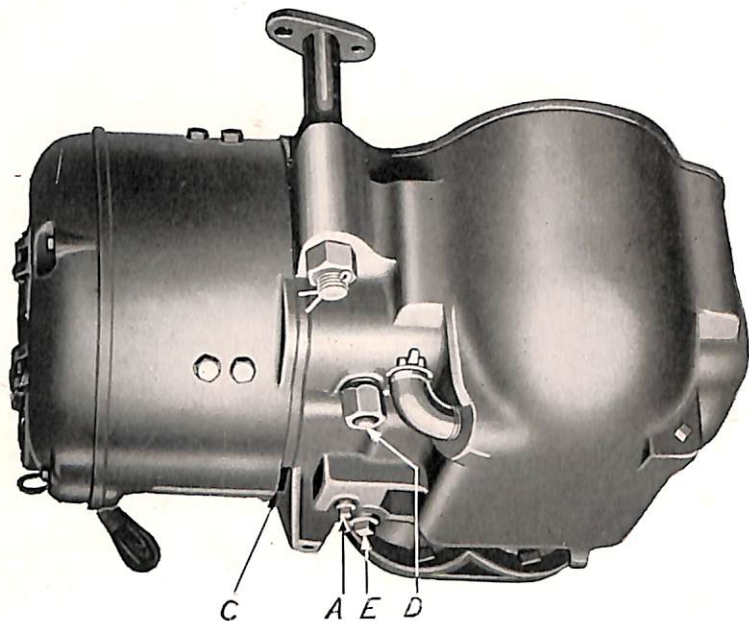
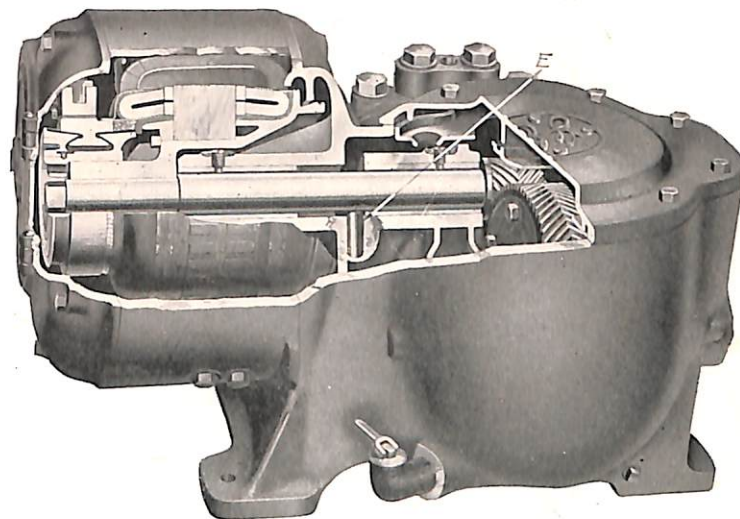
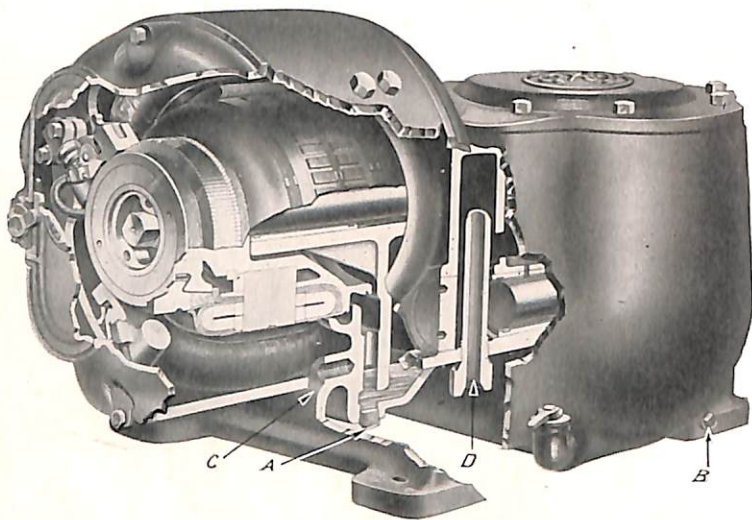

Fig. 4. Type CP-27-B Air Compressor
Fig. 7. Type CP-27 Air Compressor, Section View Showing Motor End
Fig. 10. Type CP-27-A Air Compressor Showing Vent Pipe and Oil Return to Crank Chamber
Fig. 4 shows the underside of the compressor as viewed from a pit. The oil drain "C" located at the junction of the motor frame and compressor frame does not normally discharge oil, but is provided as a safety device to permit the oil to escape in case the oil does not return properly to the crank chamber.
If oil appears on the compressor frame immediately below drain "C," the vent pipe "D" should be examined and thoroughly cleaned out if it is found in a clogged condition. A short piece of wire with its end bent at a right angle is commonly used for this purpose. In the absence of this, a long bladed screw driver or a clean stick will answer the purpose. In cleaning out the vent pipe care should be taken to draw any dirt which may have accumulated out at the bottom instead of pushing it up through the top into the crank chamber. A record should be kept of a compressor found in this condition, and if at the next regular inspection oil has reappeared on the compressor frame below drain "C," the  $\frac{1}{2}$ -in. pipe plug "A" should be removed and the oil passage between the motor and crank chamber thoroughly cleaned out. When the oil fails to return properly to the crank chamber, it will usually be found that the trouble is due to the vent pipe being clogged, and it is, therefore, recommended that an examination of this vent pipe be made a part of regular inspection regardless of whether there is an accumulation of oil on the compressor frame below drain "C" or not. The general arrangement of the oil return passage is shown in Fig. 10. Instances where this passage has become clogged with sediment are very rare.
A  $\frac{3}{4}$ -in. pipe plug "E" is located at the bottom of a settling well between the armature shaft bearings. This plug should be removed and any sediment which may have collected drawn off at regular intervals of once a year or less. The upper end of this settling well is designated as "E" in Fig. 7.
1. Place a block under the feet at the motor end of the compressor. This will cause the oil in the pocket between the armature bearings to drain back the crank chamber instead of flowing into the motor when the armature is removed. (See Fig. 7.)
13. The armature bearing linings can be removed by turning out the screw dowels (Fig. 7) and forcing the linings out with draw bolts.
the bottom of the settling well between the armature bearings (see "E," Fig. 4, the top of the settling well is designated "E" on Fig. 7); the second plug is under the passage where the oil, thrown off by the bell end of the armature, returns to the crank chamber (see "A," Fig. 4 and 10); the third is in the side of the crank chamber, near the crank shaft bearing which is farthest from the motor (see "B" on Fig. 10).